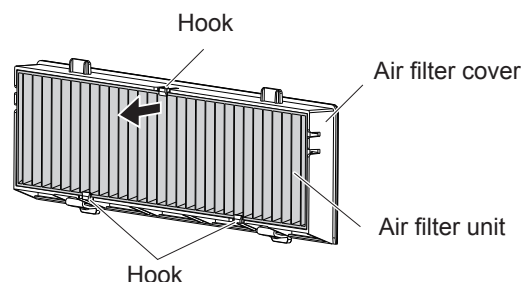

Fig.2
- The air filter unit is fixed by the 3 hooks. Grasp the fibre of the air filter unit near to the cover side with one hook and then pull the air filter unit out from the air filter cover as arrow direction shown. (Fig.2)